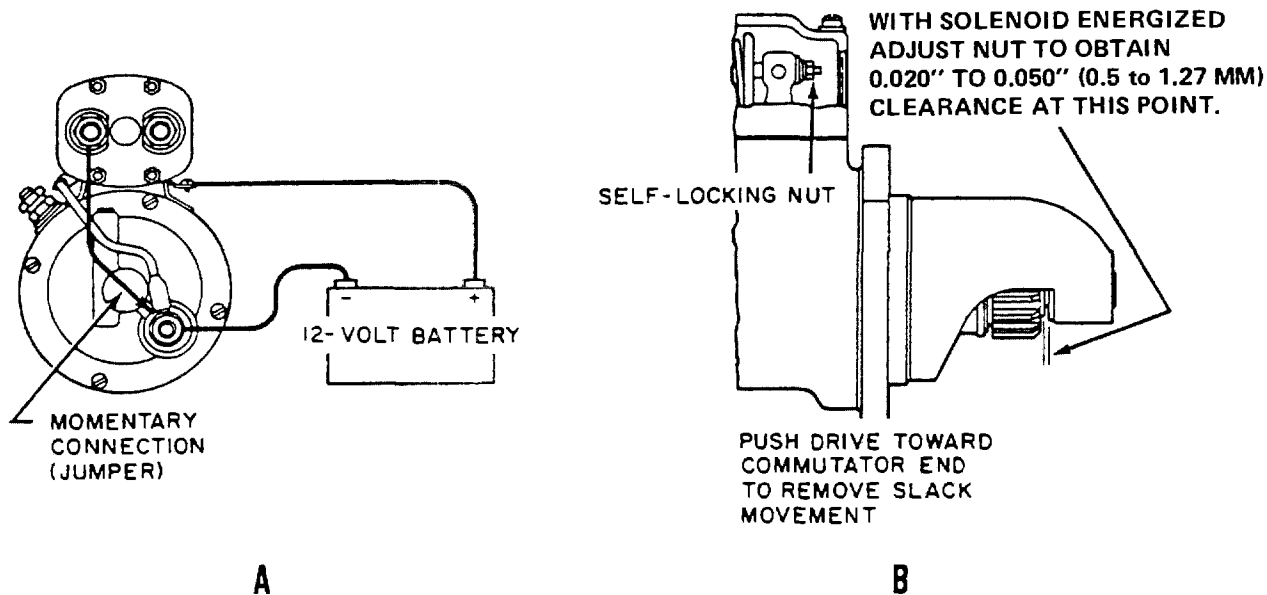

Figure 4-24. Starter Drive Assembly, Pinion Clearance Adjustment
(4) Connect a 12 volt battery to starter and solenoid as shown in A of figure 4-24.
(5) Momentarily touch jumper between terminal stud of solenoid and terminal stud in commutator end head as shown in A of figure 4-24. This will shift solenoid and drive assembly into cranking position.
(6) Push drive assembly toward commutator end of starter to eliminate any slack in linkage.
(7) Measure distance between outside edge of drive sleeve and thrust washer as shown in B of figure 4-24. This distance should be